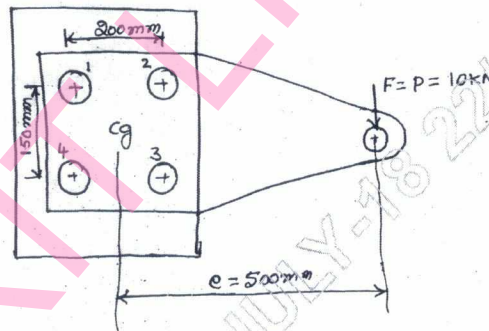

Fig.Q4(b)
- b. The structural connection shown in Fig.Q4(b) is subjected to an eccentric load  $P$  of  $10$  kN with an eccentricity of  $500$  mm. The centre distance between bolts at 1 and 3 is  $150$  mm and the centre distance between bolts at 1 and 2 is  $200$  mm. All bolts are identical. The bolts are made of plain carbon steel having yield strength in tension of  $400$  MPa and the factor of safety is  $2.5$ . Determine size of bolts.